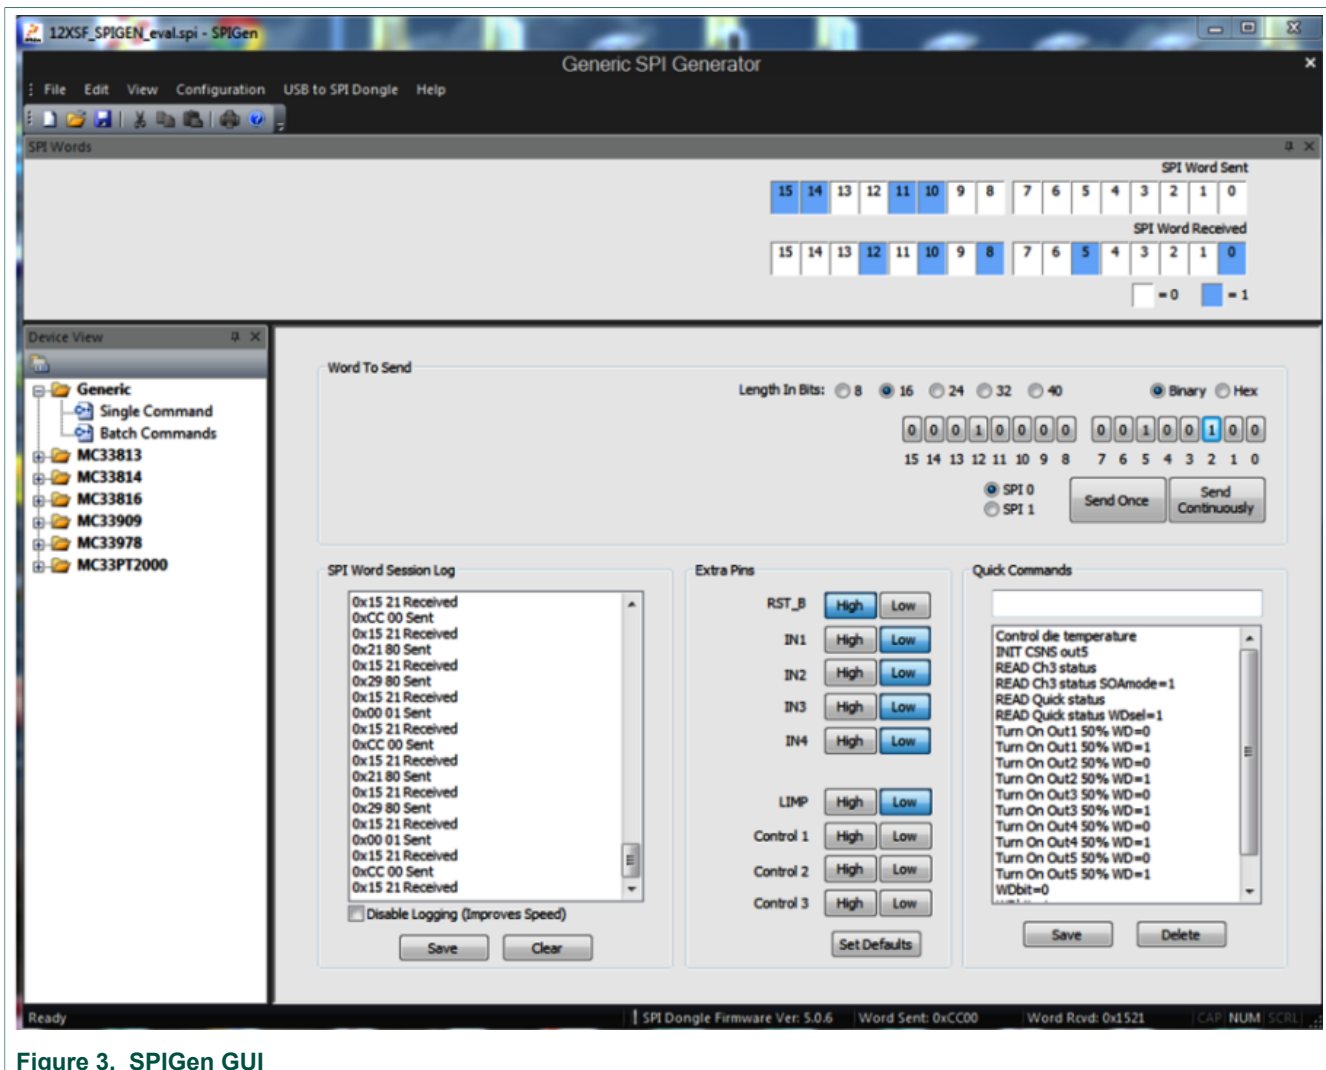

Figure 3. SPIGen GUI
5. The GUI shown in Figure 3 presents some basic SPI commands for quick evaluation of 12XSF devices in addition with access to I/Os with Extra pins. The commands are sent once (single command) or continuously in a loop (batch command).